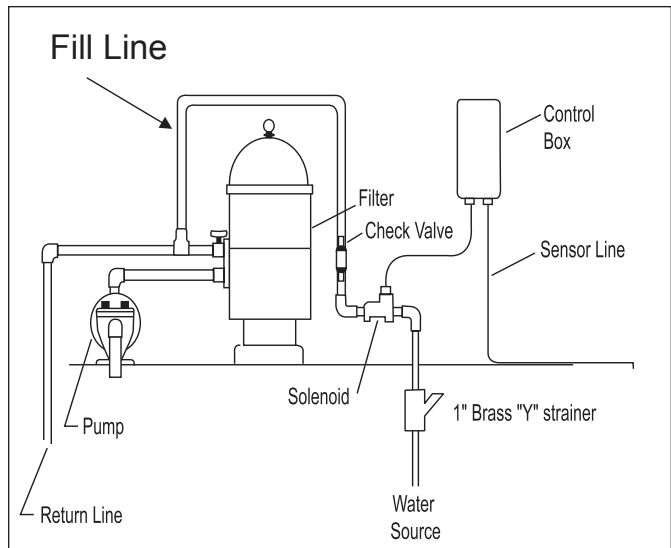

Figure 1. K-1100 and K-2300 Installation
1. Mount the control box to the wall near the pump and filter. See Figure 1. **Do not install the control box within 10 ft (3 m) of the pool edges.**